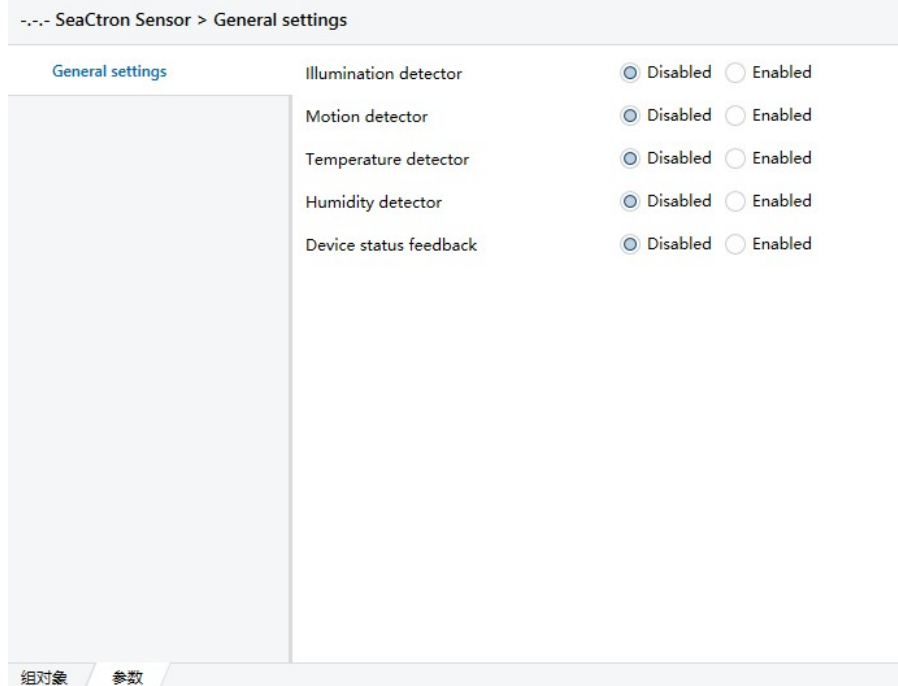

Figure 6.1.1
1) Open the parameter setting interface of the illuminance infrared motion sensor in ETS5, as shown in Figure 6.1.1. The "General" parameter setting interface can set whether to disable / enable the functions such as illumination detector, motion detector and device status feedback.